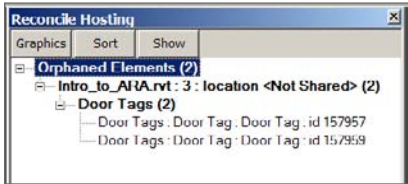

Figure 10.22
**Graphics** The Graphics option (Figure 10.22) provides tools to change the line weight, line color, and line pattern of the orphaned tags to make them easier to view on the screen.